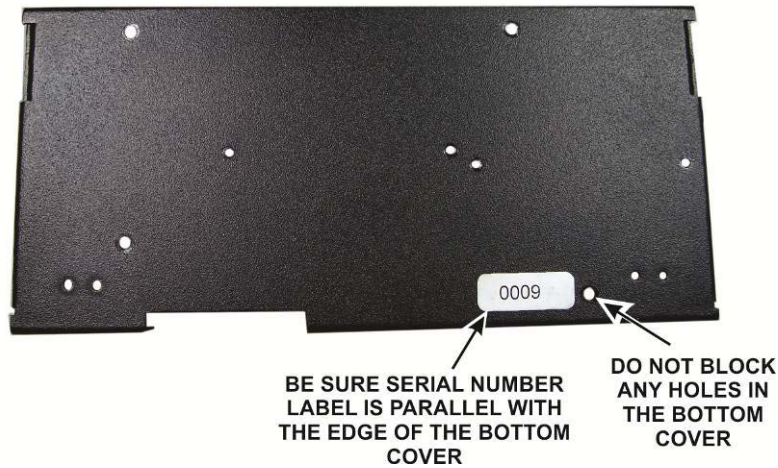

Figure 27. Placing the Serial Number on the Bottom Cover.
- Peel the protective cover off of the back of the self-adhesive serial number label and affix it to the bottom cover as shown in Figure 27.